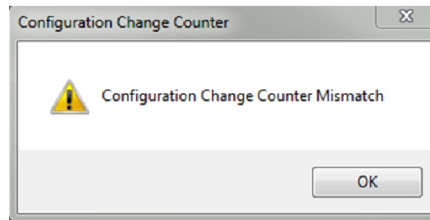

Figure 5.11—Configuration Change Counter Mismatch error message
3. If the number of changes on the transmitter matches the number sent by the EZ-Link, the Configuration Changes Bit will be reset successfully. If the number of changes do not match, *Configuration Change Counter Mismatch* error message (Figure 5.11, page 38) will appear. Click **OK** and **Reload** to read the Configuration Change Counter from the transmitter. Repeat step 2 to acknowledge the configuration changes and to reset the Configuration Change Bit.